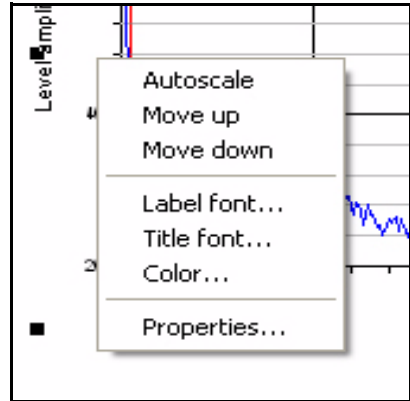

FIGURE 5-12 Y Axis Scaling Window
Position the cursor over the title of the amplitude (Y) axis, just to the left of the graph, until a vertical double headed arrow appears. Right click to open the window shown in FIGURE 5-12 .
To set the amplitude axis in the best position to display the curve, open the same window shown in FIGURE 5-12 and left click **Autoscale**.